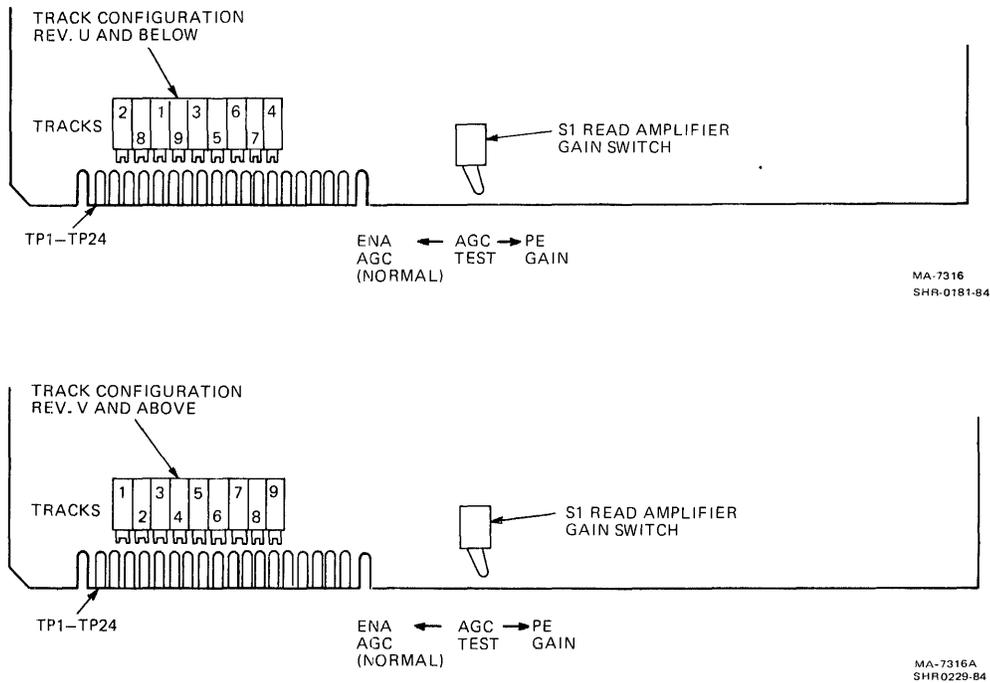

Figure 3-16 Read PCBA Test Points and Adjustments
3. Connect an oscilloscope to read PCBA (Figure 3-16) test point 11. Set the scope as follows.
5. Adjust the track 1 read PCBA potentiometer R706 (Figure 3-16) so the read data envelope measures 1.25 V peak-to-peak.